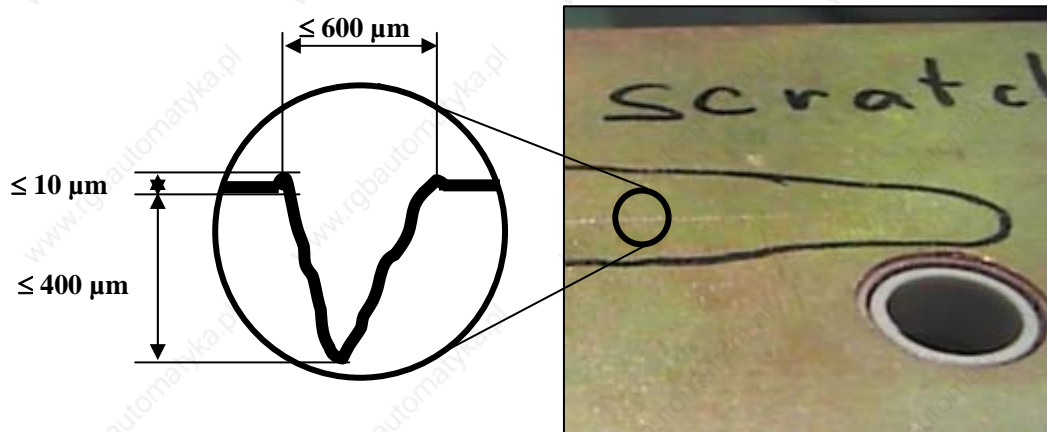

Figure 2 - Scratches on the SEMITOP bottom surface
- The following figures (Figure 2 and Figure 3) define surface characteristics, which do not affect the thermal behaviour.